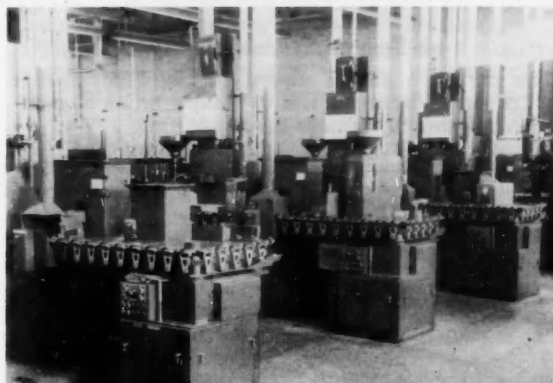

Fig. 5—Group of four machines used to produce circuit-breaker levers
Fig. 5 shows the group of four machines used to produce circuit-breaker levers. It illustrates several principles followed in the design and construction of these machines.
Fig. 5 is a pipeline summary for management. It is a composite of the primary interests of the operating heads. Postings are made weekly or bi-weekly.
Fig. 5—This "pipeline summary" tells operating heads the things they are mainly interested in: (1) actual compared with budgeted hours per airplane produced, (2) rework hours per airplane, (3) scheduled versus actual airplanes produced each week, (4) accumulated scheduled and actual production, (5) actual number of men compared with forecast, and (6) fabricated and purchased parts shortages